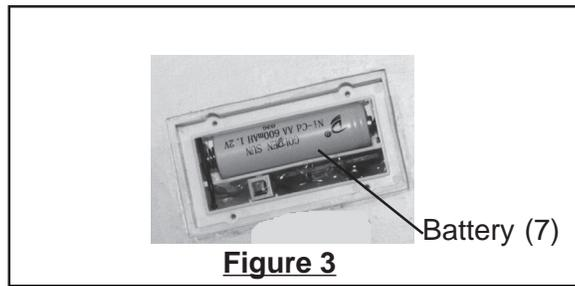

Figure 3
2. Remove the Rubber Panel (6) from the Battery Compartment-see Figure 2. Pull out the Battery (7) and replace with a new Battery (7)-see Figure 3, next page.